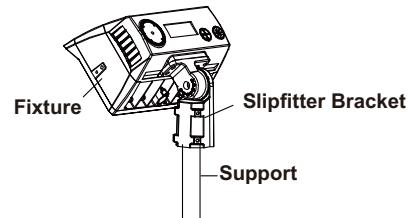

figure 7
- Step 2: Loosen the fixing bolts and adjusting bolts,align the fixture to required angle.Tighten adjusting bolts and fixing bolts after the angle is confirmed.(Figure 7)